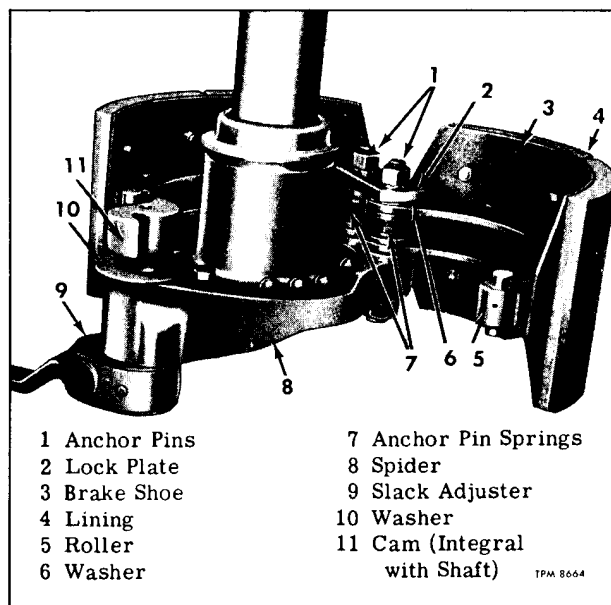

Figure 24—Rear Brake Anchor Pins Installed
Heel of each brake shoe is attached to anchor pins which are installed in brake spider as shown in figure 24. Shoes are retained on anchor pins by a strap, two tapered dowels, two lock washers, and two nuts. Spacing washers are used as required to provide proper fit of shoe end between spider and strap.
2. Position each brake shoe heel on anchor pins, with anchor pin springs positioned on shoes, as shown in figure 24.